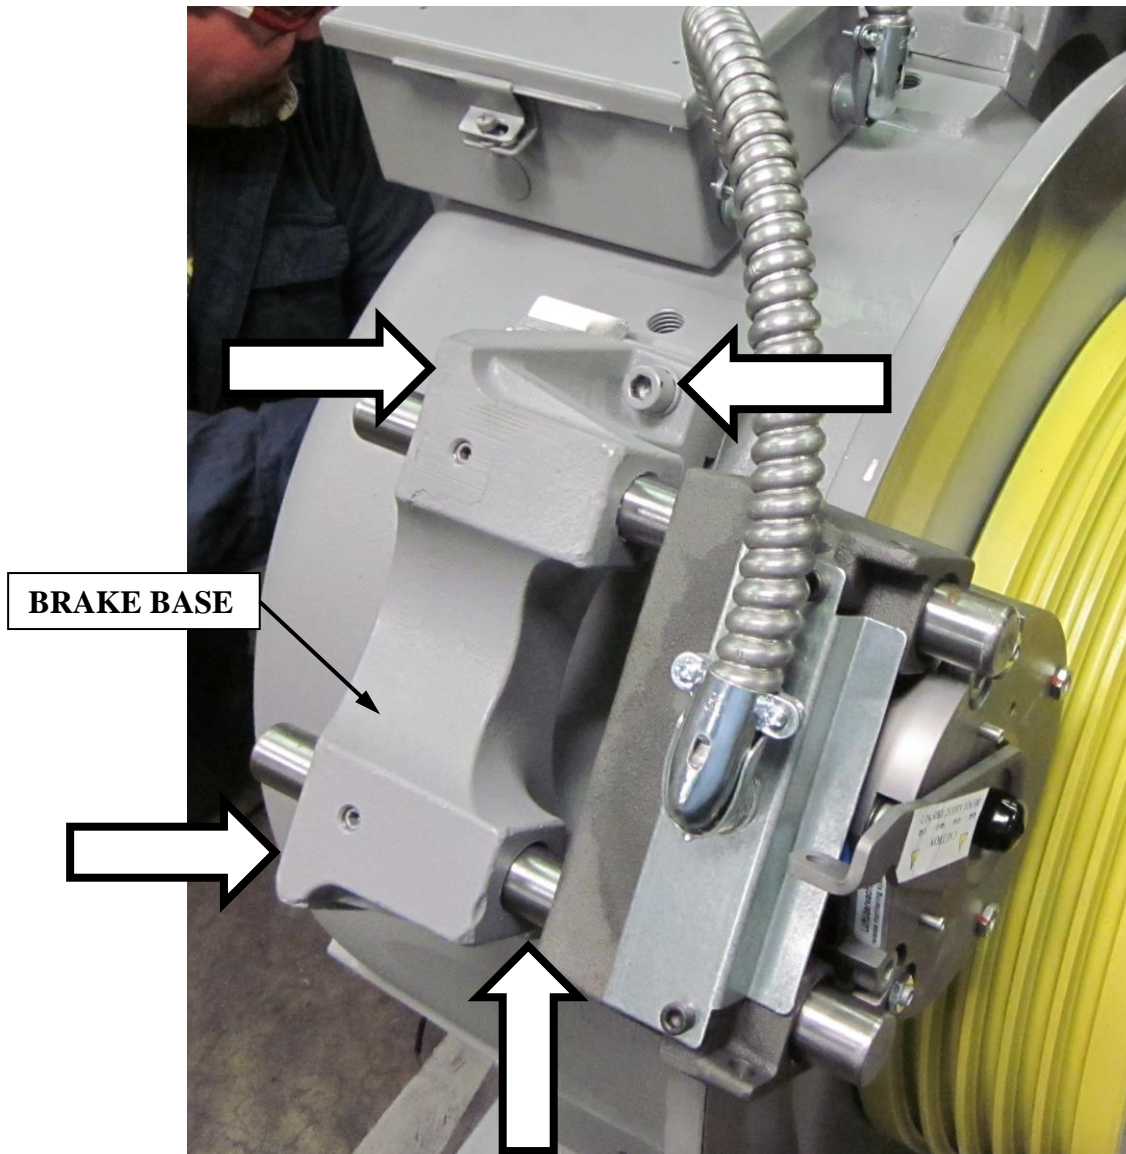

Figure 13
- With the Brake clamping the rotor (de-energized) Use a 3/8" Hex Wrench to loosen (4 per brake) socket head screws "ARROWS". Shown in Figure 13